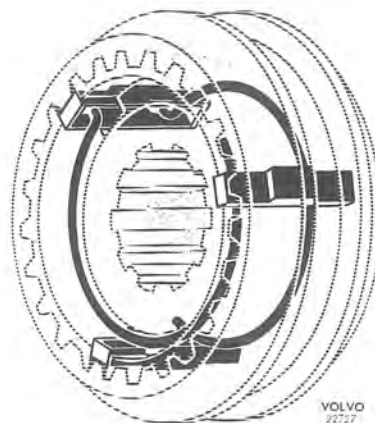

Fig. 4-26. Assembling synchronizing
1. Assemble 1st-2nd and 3rd-4th speed synchronizers. Fit the snap rings correctly, see Fig. 4-26. Place the resilient ring in the hub for 3rd—4th synchronizers.